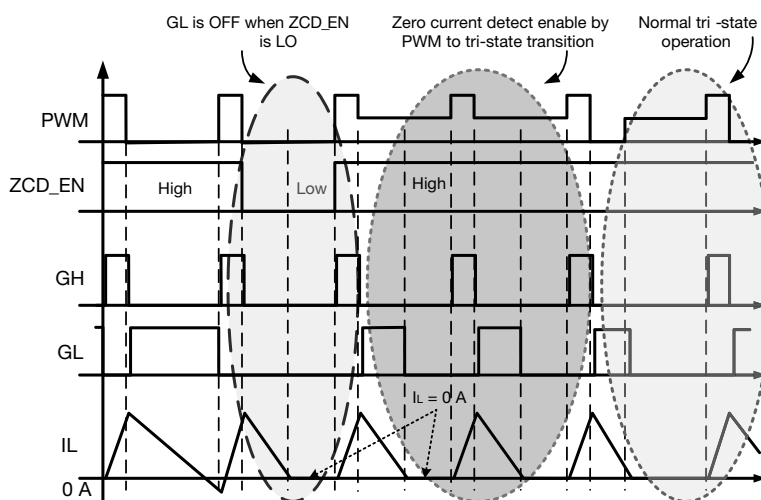

Fig. 3 - Timing Diagram
- (1) In this condition (PS2 mode), controller will deliver PWM signal switching between 5 V and 2 V. See the timing diagram in fig. 3.